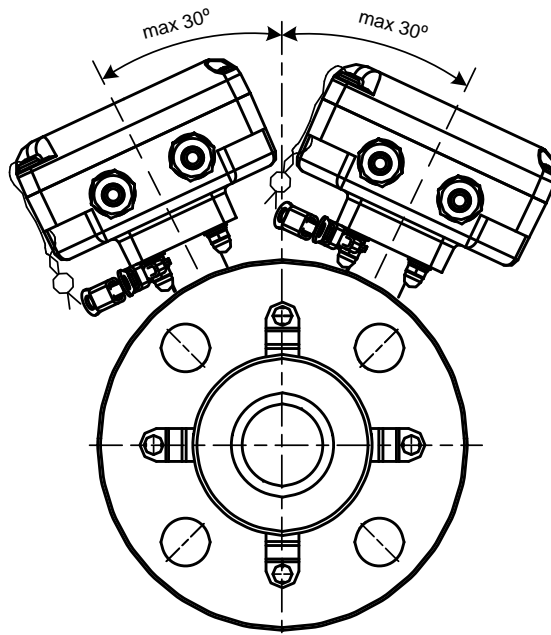

Fig.2. Maximum permissible deflection from vertical axis
- When mounting the flow meter into horizontal or oblique pipeline, position the axis of the stand of the Measuring Unit in vertical plane going through the pipeline axis. Maximum deflection is $\pm 30^\circ$ (Fig. 2)
- 3.2.7.1. Position the flow meter instead of the simulator so that the axis of the Measuring Unit stand is arranged in vertical plane with maximum deflection of $\pm 30^\circ$ (see. Fig.2). An arrow on the Flow Sensor shall point in the flow direction.